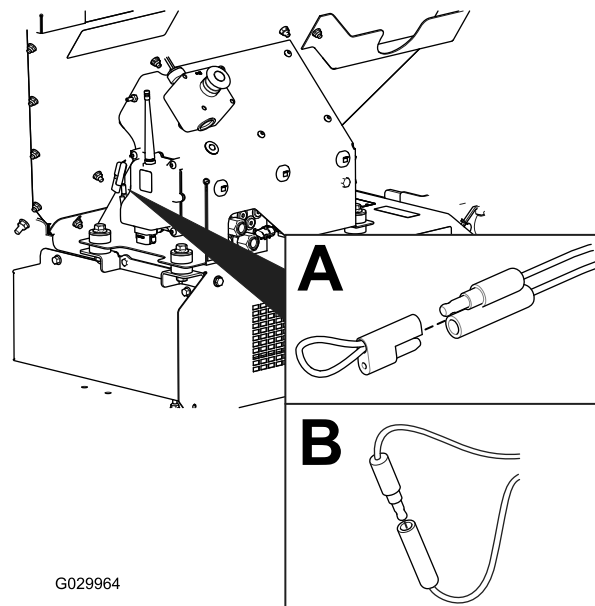

Figure 59
2. Pull the tethered cap off of the 2 diagnostic shunt connectors (Figure 59, A).
3. Connect the diagnostic shunt connectors together (Figure 59, B).
2. Disconnect the diagnostic shunt connectors (Figure 59, B).
3. Push the tethered cap onto the 2 diagnostic shunt connectors (Figure 59, A).